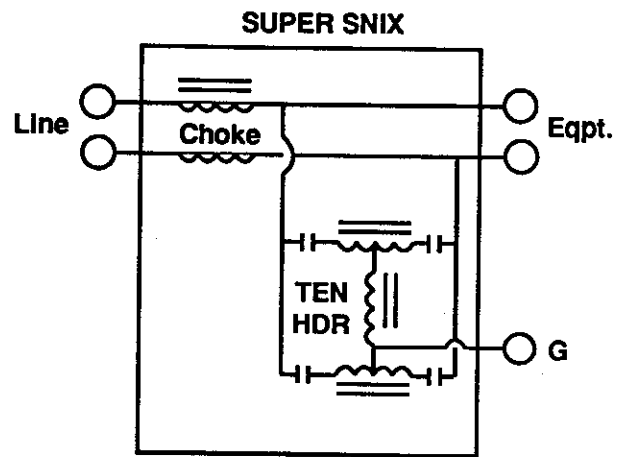

Figure 6
4.03 A Super SNIX is a combination noise choke and dual drainage unit, configured to take advantage of the unique properties of both the HDR and TEN. The broad voice-frequency noise drainage capabilities of the HDR and the more effective fundamental frequency drainage of the TEN make the Super SNIX equally effective at both noise and induced voltage reduction. See Figure 6.